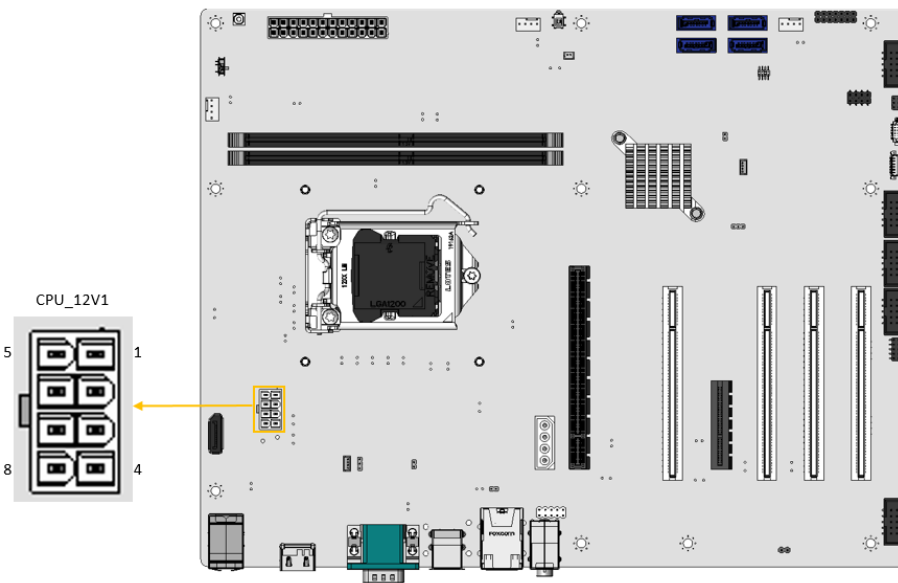

Figure 3-2: ATX CPU 12V Power Connector Location
- CN Location:** See Figure 3-2